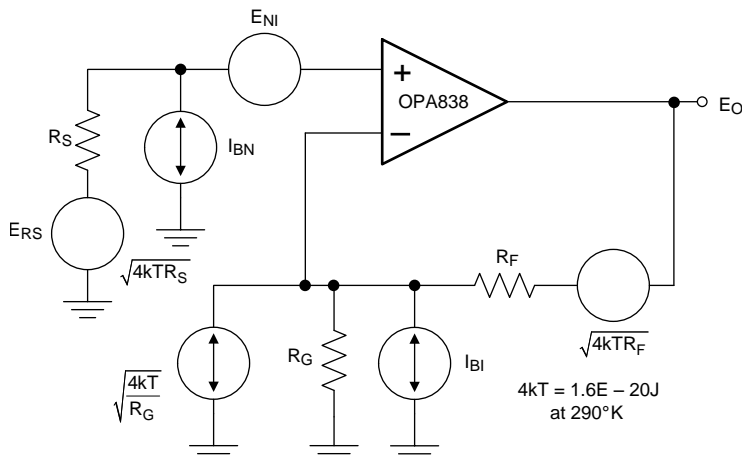
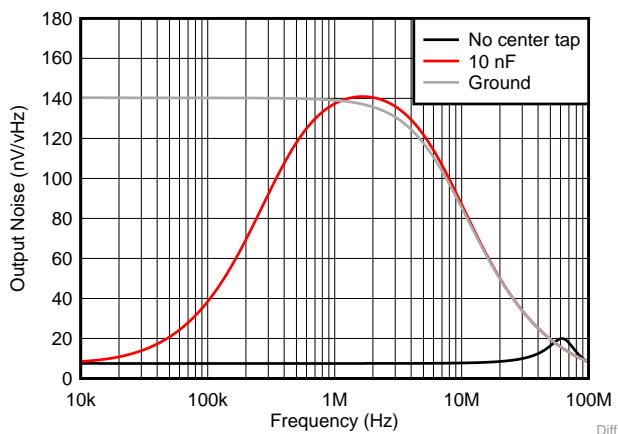

Figure 76. Op Amp Noise Analysis Model
Figure 78. Common-Mode Output Noise for Differential I/O Design
The decompensated voltage feedback of the OPA838 op amp offers among the lowest input voltage and current noise terms for any device with a supply current less than 1 mA. Figure 76 shows the op amp noise analysis model that includes all noise terms. In this model, all the noise terms are shown as noise voltage or current density terms in  $\text{nV}/\sqrt{\text{Hz}}$  or  $\text{pA}/\sqrt{\text{Hz}}$ .
The total output spot noise voltage is computed as the square root of the squared contributing terms to the output noise voltage. This computation is adding all the contributing noise powers at the output by superposition, then taking the square root to return to a spot noise voltage. Equation 3 shows the general form for this output noise voltage using the terms presented in Figure 76.
A high-gain differential-to-differential I/O circuit can be used to drive a second-stage FDA or a differential-to-single-ended stage. This circuit is frequently used in applications where high input impedance is required (for example, if the source cannot be loaded). Figure 76 illustrates an example design where the differential gain is 41 V/V. An added element between the two  $R_G$  resistors increases the noise gain for the common-mode feedback. It is important to provision for the added element because a decompensated VFA (like the OPA838) often oscillates without it in this circuit. With only the  $R_G$  elements in the differential I/O design, the common-mode feedback is unity-gain and often causes high-frequency, common-mode oscillations. To resolve this issue, split the  $R_G$  elements in half and add a low-impedance path such as a capacitor or a DC reference between the two  $R_G$  values.
- Assess the DC common-mode biasing on the noninverting inputs. The DC biasing must be in range and have a gain of 1 to the output. This is not illustrated in Figure 76.
- If a DC reference is used as the mid- $R_G$  bias, setting the reference equal to the noninverting input bias voltage sets the output common-mode to that voltage. Using a capacitor as illustrated in Figure 76 accomplishes the same results.
- Simulate the common-mode noise with different elements on the  $R_G$  center tap, as shown in Figure 78. Decide which is most appropriate to the application.
The common-mode loop instability without the  $R_G$  center tap is not often apparent in the closed-loop differential simulations. It can often be detected in a common-mode output noise simulation as Figure 78 shows. Grounding the inputs Figure 77 and running a output noise simulation for the common-mode tap point in Figure 76 shows a peaking in the noise at high frequency. This peaking indicates low-phase margin for the common-mode loop. Figure 78 shows this peaking in the lowest noise curve, with two options for improving phase margin. The first option used in Figure 77 is a capacitor to ground set to increase the common-mode noise gain only at higher frequencies. This can be seen by the peaking in the common-mode noise of Figure 78. Another alternative is to provide a DC voltage reference on the  $R_G$  center tap. This raises the common-mode noise gain from DC on up in frequency. Neither of these latter two show any evidence of low phase margin peaking. They do increase the output common-mode noise significantly at lower frequencies. Typically, an increase in output common-mode noise is more acceptable than low-phase margin as the next stage (FDA, ADC, differential to single stage) rejects common-mode noise.